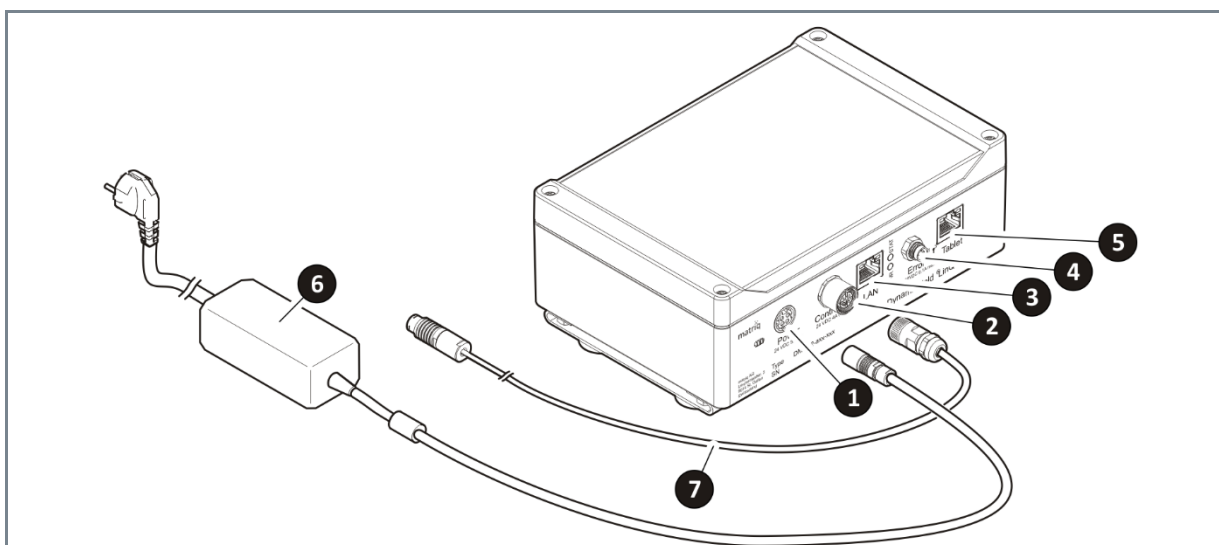
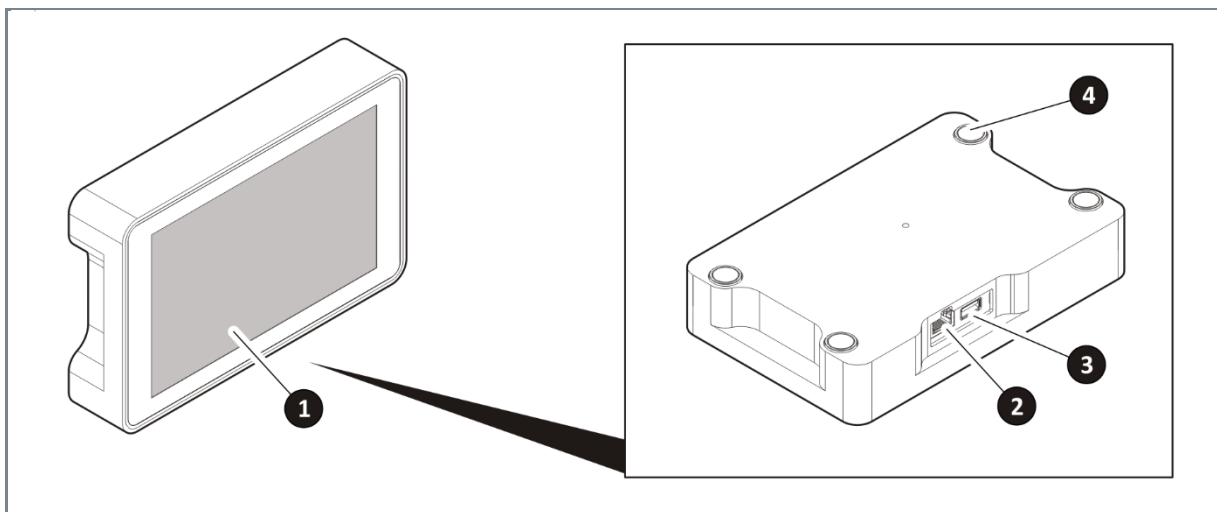

Fig. 9 Cable connections
Fig. 10 Tablet connections
- ① Power - DIN 4-pin socket (24V power supply)
- ② Controller - M12 5-pin connector (DynamicMold® Controller)
- ③ LAN - RJ45 socket (LAN)
- ④ Error - M8 connector for error contact (optional connection)
- ⑤ Tablet - RJ45 socket with PoE (Tablet)
- ⑥ Power supply with mains cable and plug
- ⑦ Controller Cable
The DynamicMold® LinQ has to be connected to the same power supply as the injection molding machine. Prior to connecting, that the power source meets the specifications of the power supply and is equipped with a protective earthing conductor, an emergency stop switch, a residual current device (RCD), and a fuse rated at max. 13 A. The power supply (Fig. 9, ⑥) supplied with the DynamicMold® LinQ may only be connected to sockets with protective grounding.
- LAN cable for network connection (IP address + login data required) (Fig. 9, ③)
- Connecting cable to the DynamicMold® Controller (Fig. 9, ②)
- Tablet cable for connecting the Tablet (Fig. 9, ⑤)
2. Connect the 24V connecting cable of the power supply (Fig. 9, ⑥) to the DIN 4-pin socket (Fig. 9, ①).
3. Connect the mains cable of the power supply (Fig. 9, ⑥) with the power grid. Make sure the specifications in **Fehler! Verweisquelle konnte nicht gefunden werden. Fehler! Verweisquelle konnte nicht gefunden werden.** have been considered.
The Tablet can be fixed to the outside of the injection molding machine using the holding magnets on the back (Fig. 10, ④). Make sure that no vibrations occur and that the holding surface is free of dirt.
- ① Touchscreen
- ② RJ45 socket
- ③ USB port type A
- ④ holding magnets
The Tablet cable is used to connect the Tablet via the RJ45 socket (Fig. 10, ②) to the RJ45 socket with PoE of the DynamicMold® LinQ (Fig. 9, ⑤). If the connection is correct, the LINK / SPEED LEDs on both RJ45 sockets light up. This connection also supplies the Tablet with power.